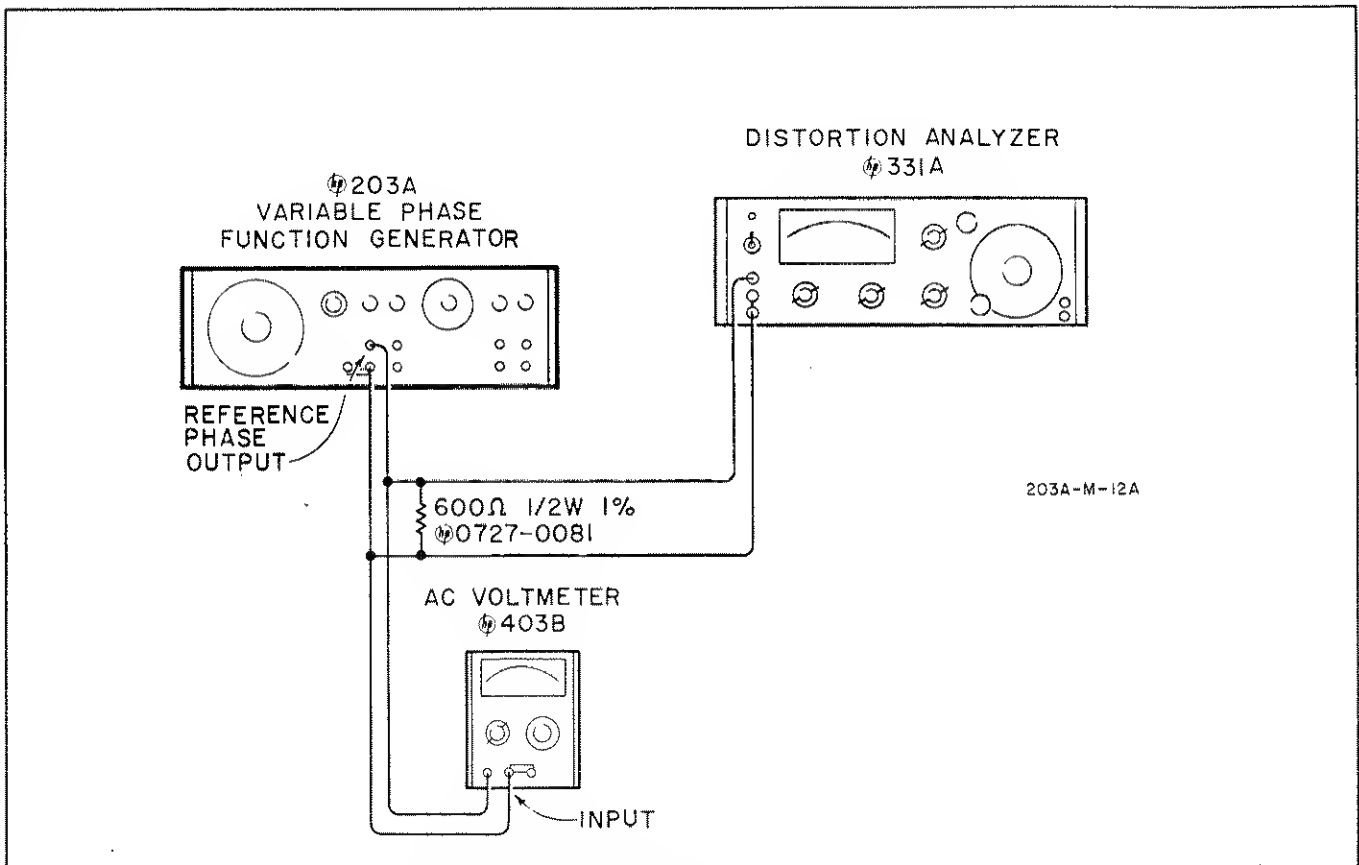

Figure 5-3. Sine Wave Check
- a. Connect Model 203A as shown in figure 5-3.